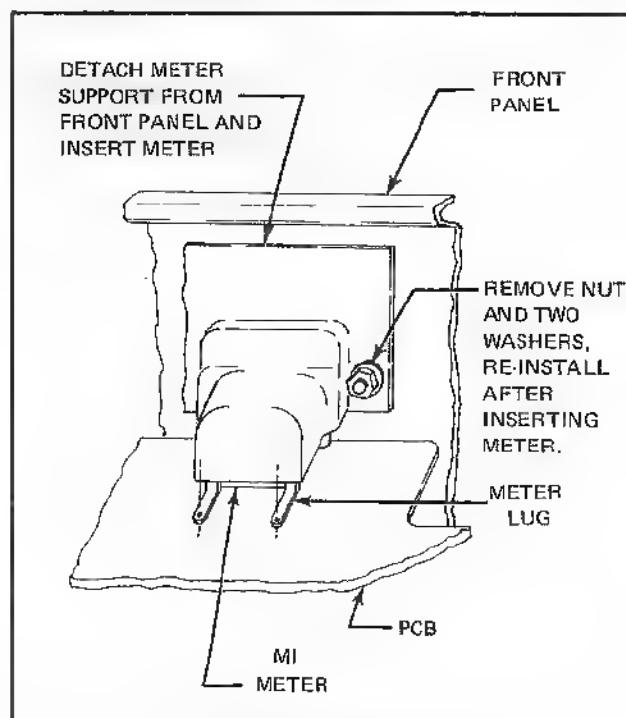

Figure 6-8. BATTERY OPTION KIT METER INSTALLATION
f. Refer to Figure 6-8 and install the meter by performing the following steps:
4. Bend the meter lugs toward the rear of the instrument so they are parallel with the PCB and aligned with holes in the PCB. See Figure 6-8.